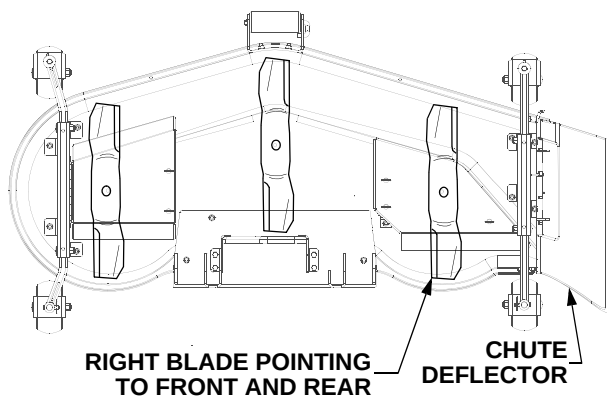

Figure 51
- Carefully rotate the outer cutting blades so that the ends of the blades point to the front and rear of the deck. See Figure 51.